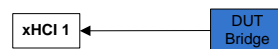

Figure 2-5: PC to PC Bridge Enumeration Topology
- Connect DUT as shown in Figure 2-5 connecting only one side to xHCI 1.